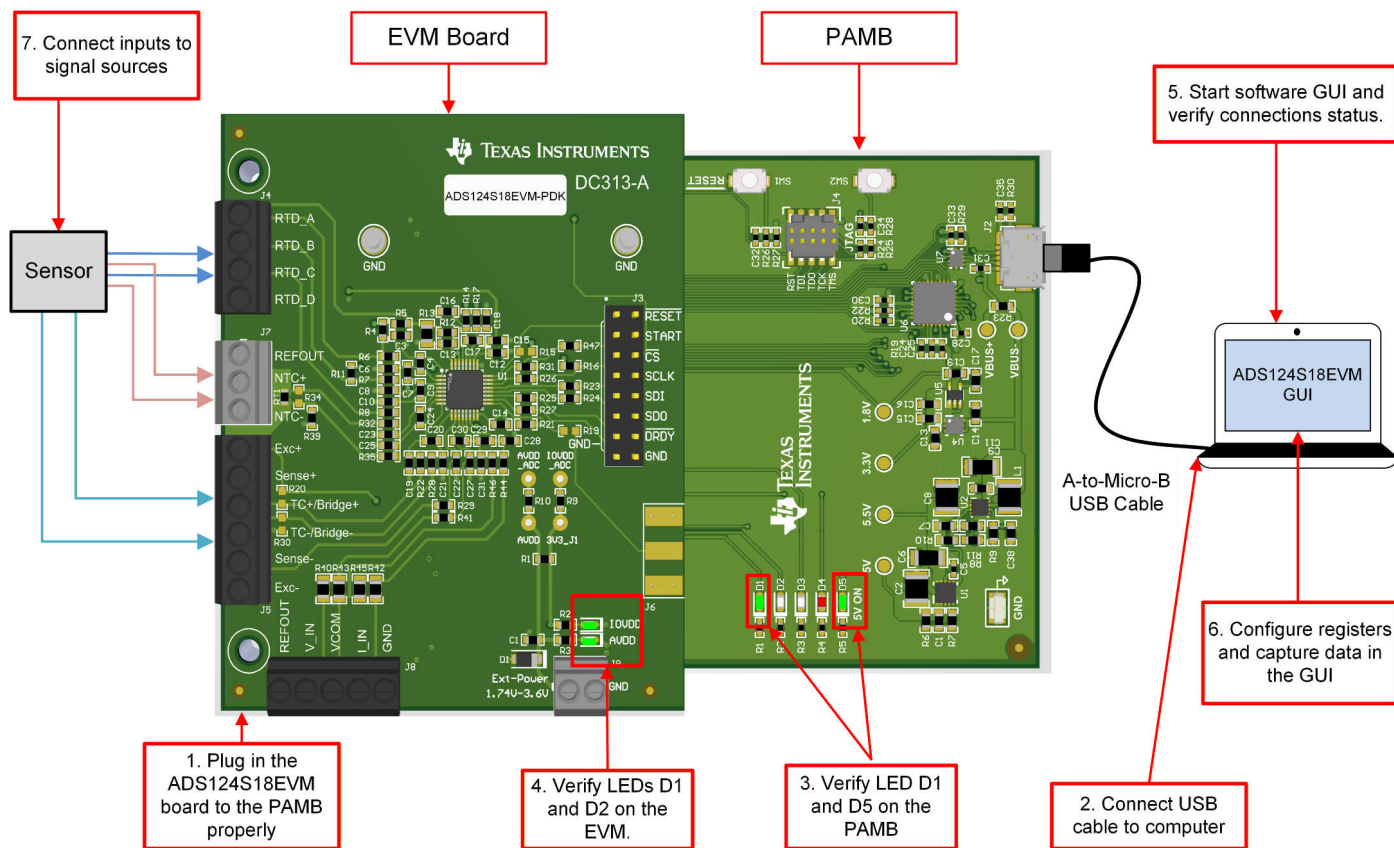

Figure 4-1. Connecting the Hardware to the ADS124S18EVM
Figure 4-1 shows how to connect the ADS124S18EVM after installing the GUI software:
7. Connect external sensors or signals to J4, J5, J7 or J8 on the ADS124S18EVM as shown in Figure 4-1.